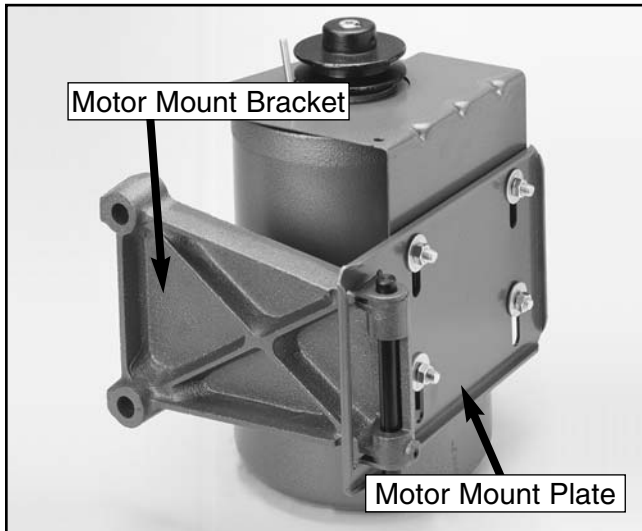

Figure 18. Installing the motor mount bracket.
5. Locate the motor mount bracket shown in **Figure 18**. Loosen the setscrew that holds the motor pivot rod in place and remove the rod.